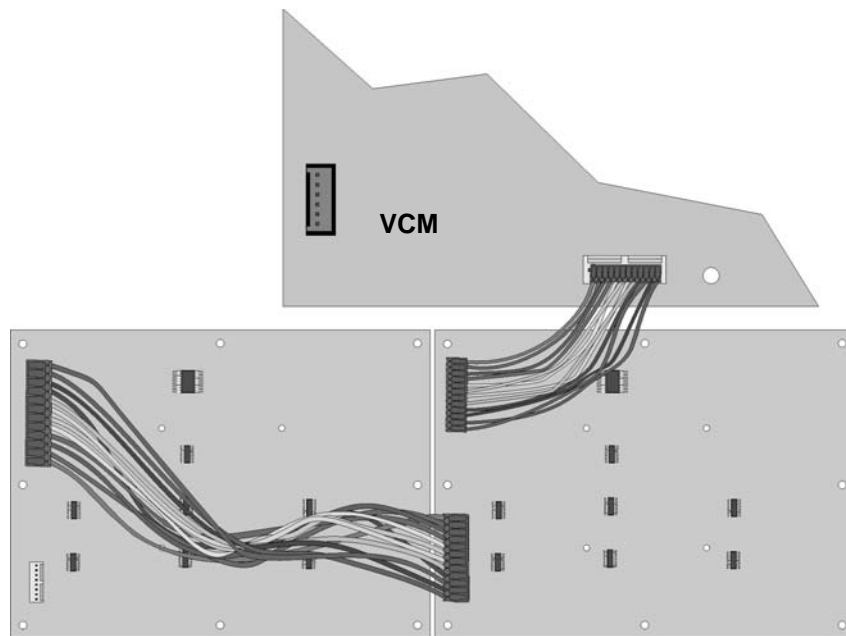

Figure 4-5 Wiring Harness Connection for VCM to Two ECS-SW24
6. For IFP-2000ECS connect one end of the wiring harness (PN 130398 supplied) to the ECS-VCM, and the other end to the ECS-SW24. If two ECS-SW24's are used, connect one ECS-SW24 to the other ECS-SW24 as shown in Figure 4-5.